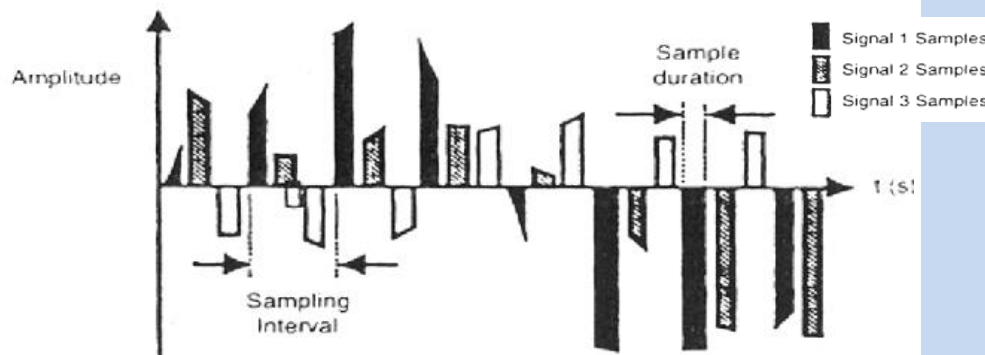

Figure 3
2. It must start at the same time as the transmitting switch and it must establish electrical contact with the same channel no. as that of the transmitter. If these two conditions are met, the receiver is said to be in synchronization with transmitter. If constraint one is not met, the samples of different sources would get mixed at the receiver (See figure 3)